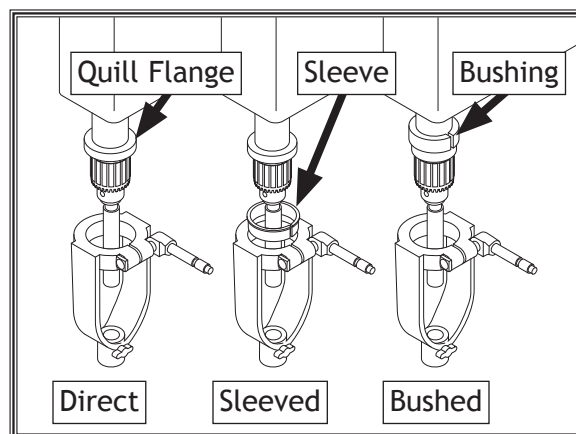

Figure 3. Three mounting methods.
3. Compare the size of the flange with those listed in the **Inventory** and examine the mounting methods shown in **Figure 3**. If your quill measures 2.6", use the direct mounting method. If the measurement closely matches one of the sleeve inside diameters (ID), use one or more of the sleeves and the sleeve method. If the flange on your drill press does not match any of the ID's listed for sleeves, measure the quill body and use the pair of mount bushings.